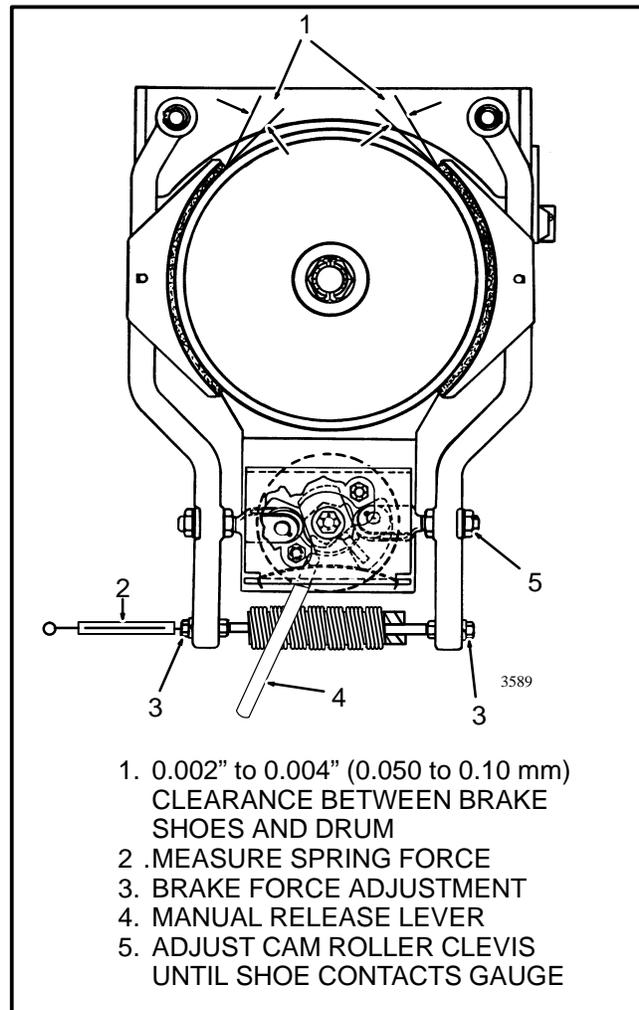

FIGURE 4. BRAKE ADJUSTMENT
3. (See FIGURE 4.) Use the adjustable screws to adjust the brake force. Use a spring gauge to check the force needed to release the brake. The brake force must be as listed in TABLE 1. Adjust if necessary. Tighten the jam nuts.